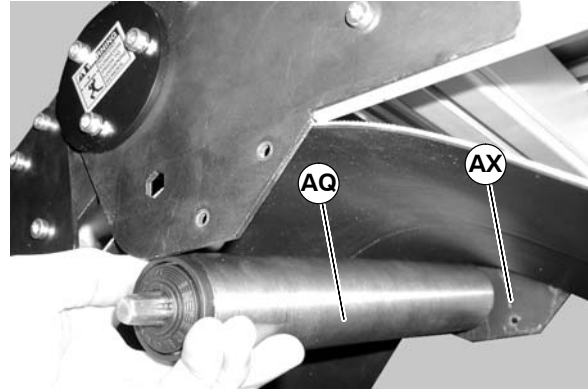

Figure 28
- Install spring loaded return pulley (AQ of Figure 28) into knuckle plate (AX).